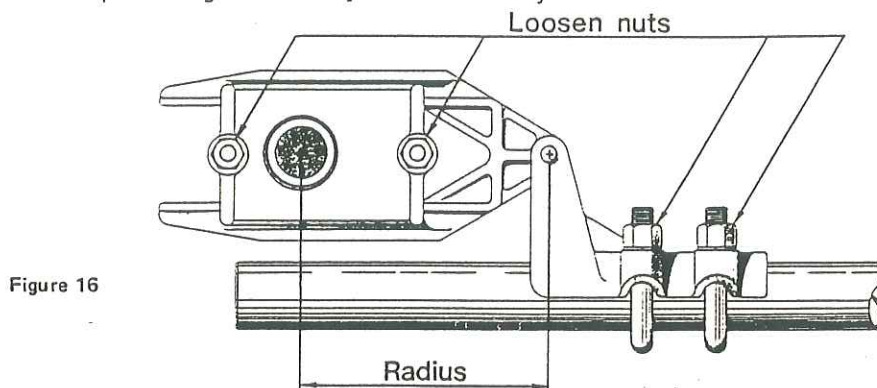

Figure 16
- c. Loosen the adjustable arm and clevis bolts as shown in figure 16.